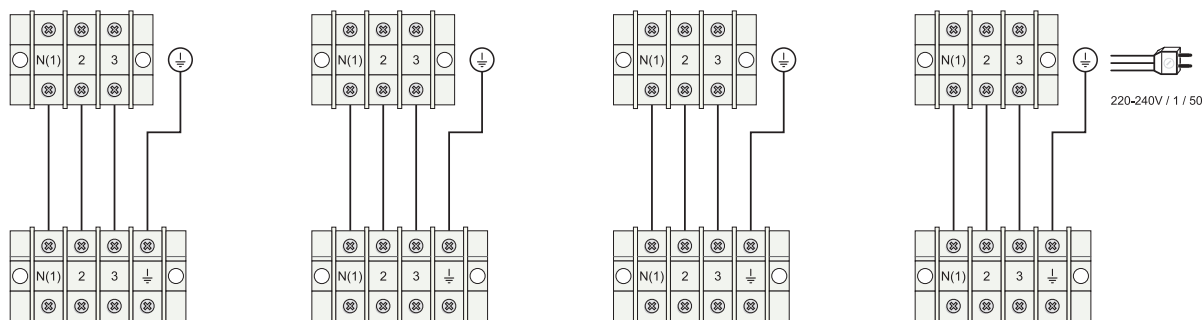

Fig. 11.3 Electrical layout for outdoor and indoor connection.
- Pass the electrical cable from the rear of the indoor unit through the specific hole in the front. Connect the cables in the indoor unit terminal space according to the corresponding connection layout. Figure 11.3.